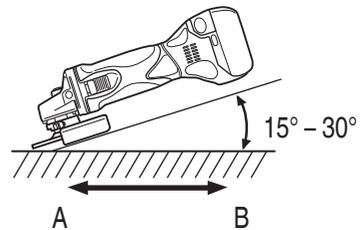

Fig. 6
Do not apply the entire surface of the depressed center wheel to the material to be ground. As shown in **Fig. 6**, the machine should be held at an angle of $15^\circ - 30^\circ$ so that the external edge of the depressed center wheel contacts the material at an optimum angle.
3. To prevent a new depressed center wheel from digging into the workpiece, initial grinding should be performed by drawing the grinder across the workpiece toward the operator (**Fig. 6 direction B**).